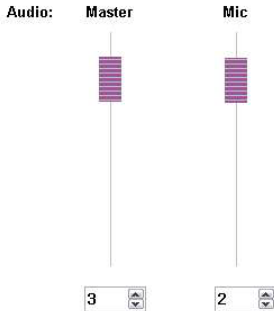

Figure 15: Changing the Audio Levels
- Click, hold and slide on the required slider or click the up and down arrows as shown in Figure 15.